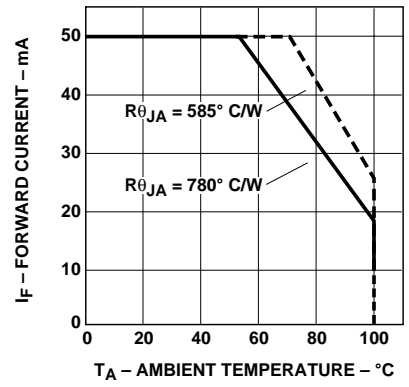

Figure 4. Maximum Forward Current vs. Ambient Temperature. Derating Based on $T_{JMAX} = 130^\circ \text{C}$.
1. Derate linearly as shown in Figure 4.